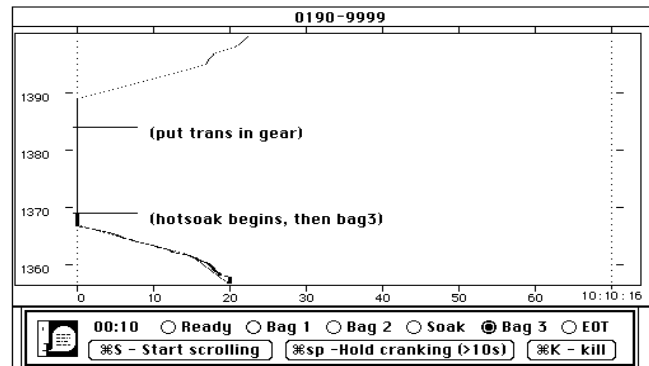

Figure 21
- 322 If the vehicle engine starts and continues to run, start the VDA trace scrolling by pressing <Command-S>, following the instructions at the bottom of the screen. See Figure 21.